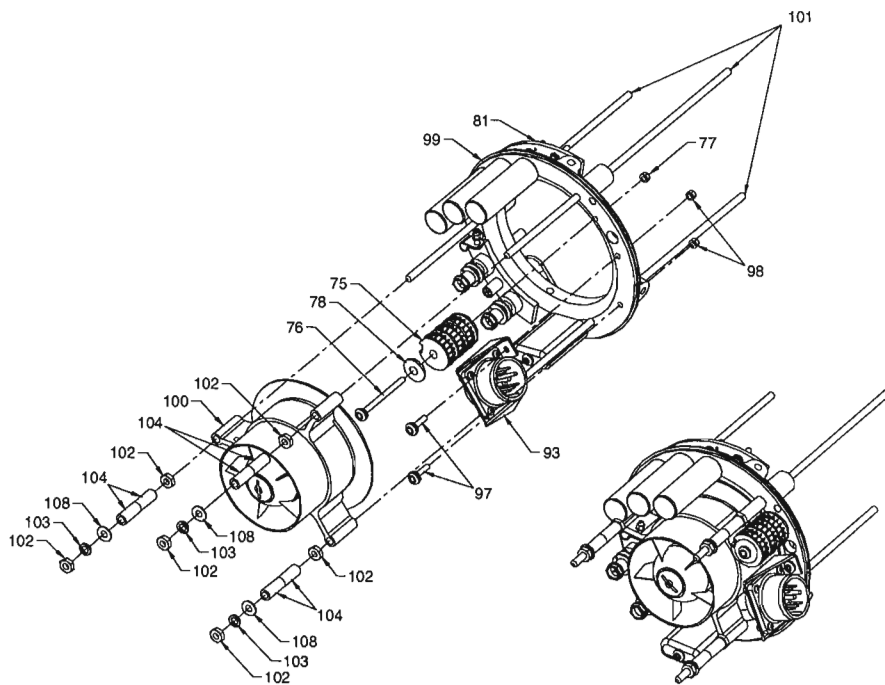

Figure 2. New Fan Motor Assembly Installation.
**NOTE:** Prior to assembly of new fan motor assembly, it is necessary to move the input connector (93) and reactor (75) aside. Desoldering the electrical connections is not required. Refer to Figure 2.
- (1) Remove two screws (97) and two nuts (98) securing input connector (93) to motor ring (99) and set input connector (93) aside.
- (2) Remove screw (76), washer (78) and nut (77) securing reactor (75) to motor ring (99) and set reactor (75) aside.